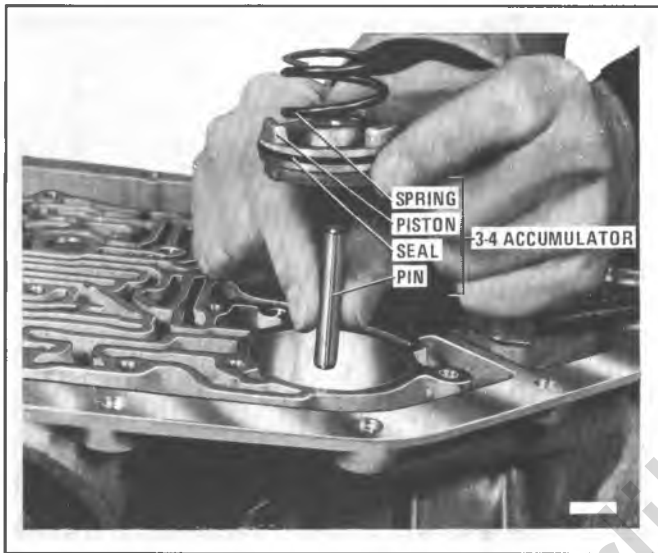

Figure 7A6-229 Installing 3-4 Accumulator Assembly in Case
4. Install 3-4 accumulator piston and spring in case (Figure 7A6-229).
5. Install eight (8) check balls in the locations shown in Figure 7A6-230.
6. Install two guides as shown in Figure 7A6-232.
7. Install the spacer plate to case gasket marked "C" on the case (Figure 7A6-231).
8. Install the spacer plate (Figure 7A6-233).
9. Install the control valve assembly to spacer plate gasket marked "VB" on the spacer plate (Figure 7A6-233).
11. Install the 1-2 accumulator plate and gasket as shown in Figure 7A6-234.
12. Install the 1-2 accumulator spring on plate (Figure 7A6-234).
13. Install a new teflon seal on the 1-2 accumulator piston Figure 7A6-235).